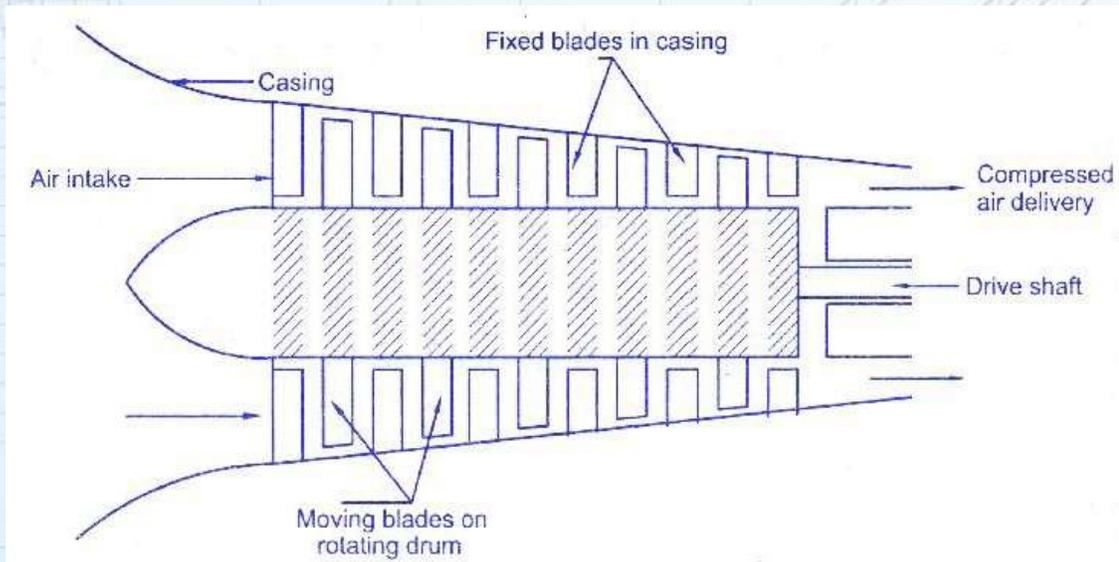

Fig.7.1 – Axial flow compressor
- ▶ An axial flow compressor consists of fixed and moving sets of blades in alternating sequence as shown in Fig. 7.1.